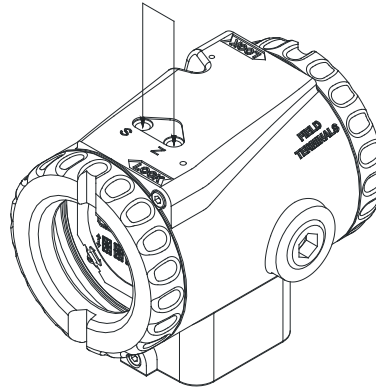

Figure 5.2 – Zero and Span Local Adjustment
Under the identification plate, the transmitter has two orifices where the magnetic tool is inserted to set the Local Adjustment. See Figure 5.2.
- ▶ Insert the magnetic tool in the ZERO adjustment holes. (See Figure 5.2);